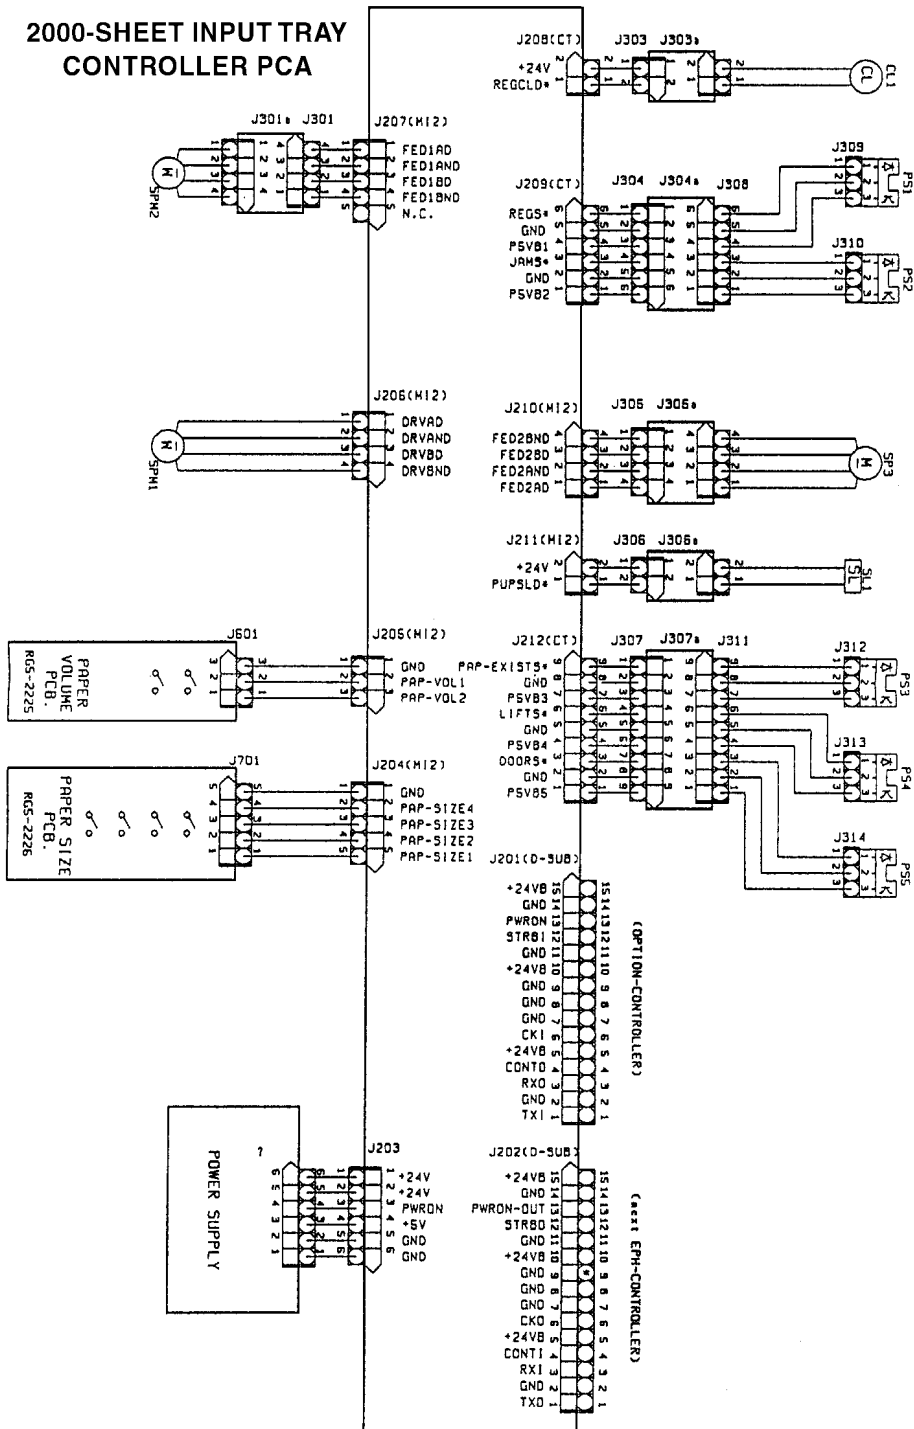

Figure 7-27 2000-sheet Input Tray Main Wiring Diagram
- Figure 7-27, “2000-sheet Input Tray Main Wiring Diagram,” on page 502